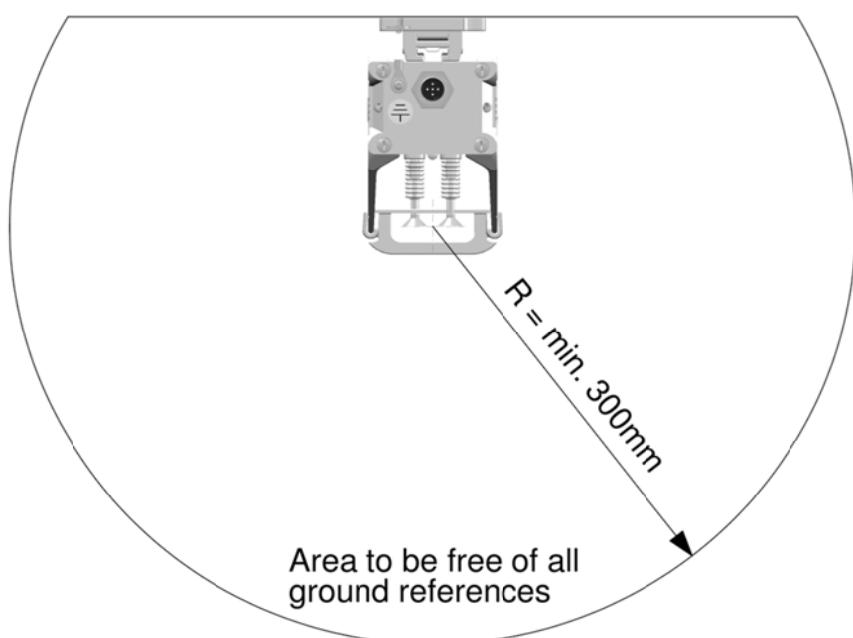

Figure 6
- For minimum distances, see Figure 6.